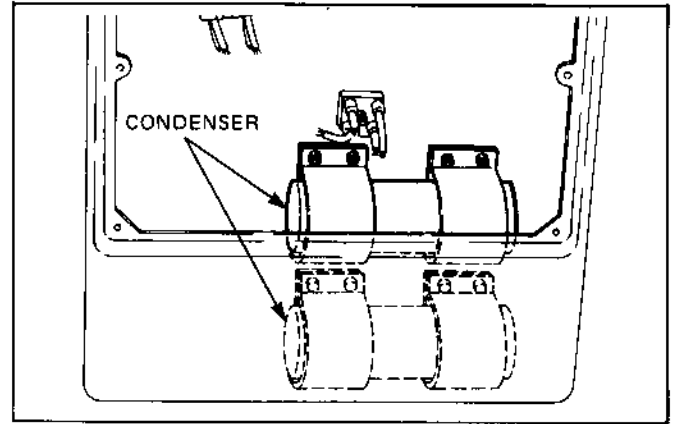

Fig. 9-8
- If an instrument (QC-meter or C-meter) for measuring capacity of condenser is available, check the capacity of condenser. (See Fig. 9-8.)